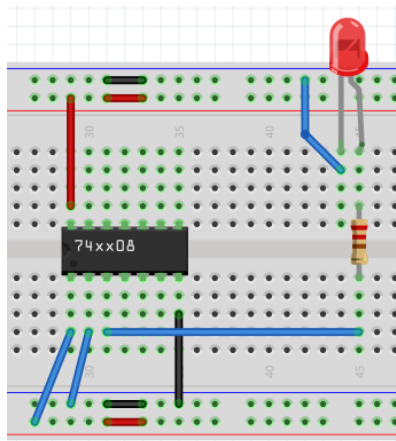

Figure 16
12. Connect input **A** of the first AND gate (**pin 1**) to **5V** (logic 1) as shown by the diagonal blue wire in Figure 16.
13. Connect input **B** of the first AND gate (**pin 2**) to **GND bus** (logic 0) as shown by the diagonal blue wire in Figure 16.